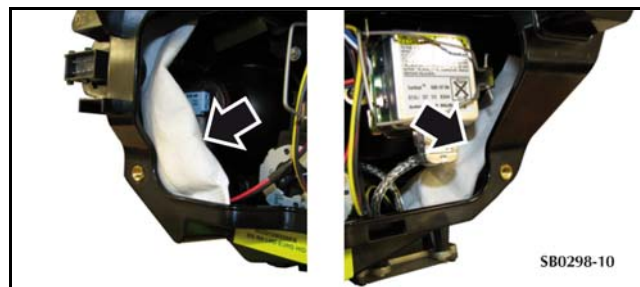

Figure 10
11. Install two silica gel bags into the headlamp (refer to Figure 10 – right headlamp shown).